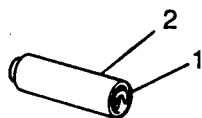

Fig C5.16
- (1) Refer to Fig C5.16. Fit the short rebound spring (1) into the end of the piston (2).